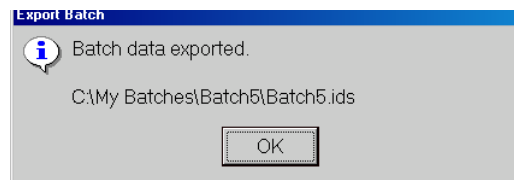

Figure 5-99 Batch Data Exported Dialog Box
3. Click **Select**. The system exports the information. The **Export Batch** dialog box opens showing the name and location of the exported data file. Click **OK**. See Figure 5-99.